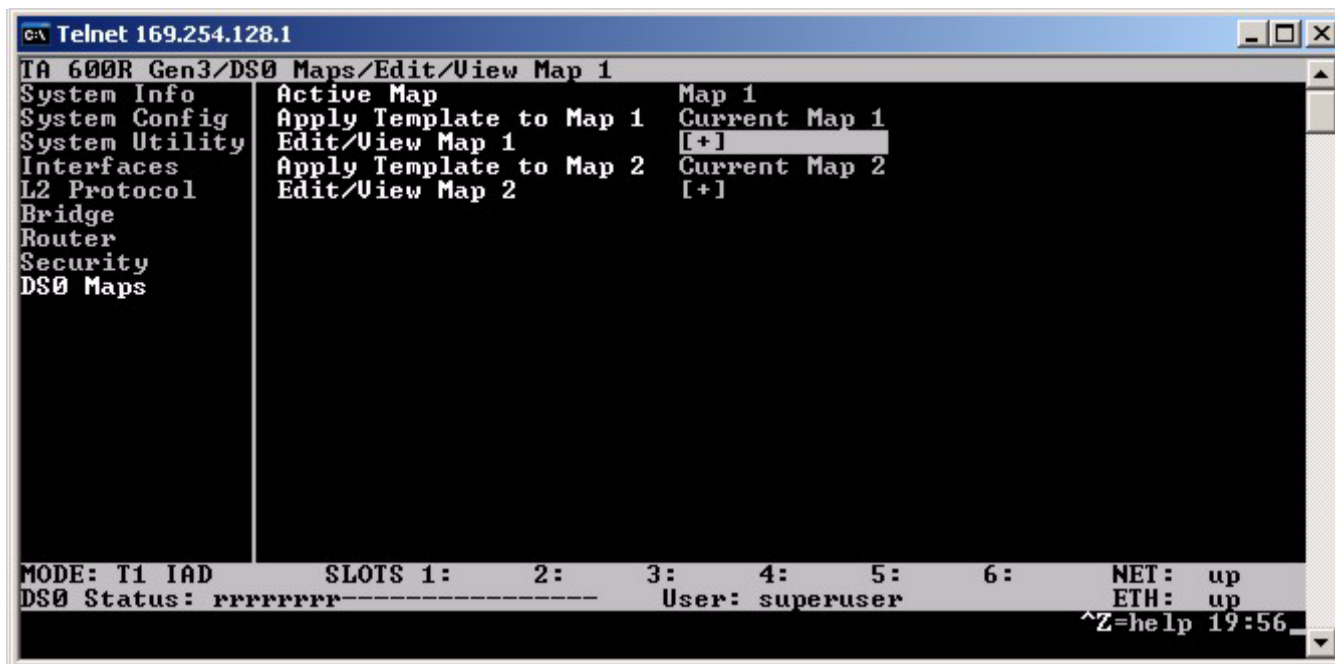

Figure 97: Selecting the map
3. Use the down arrow to select **Edit/View Map 1** as shown in Figure 97. P